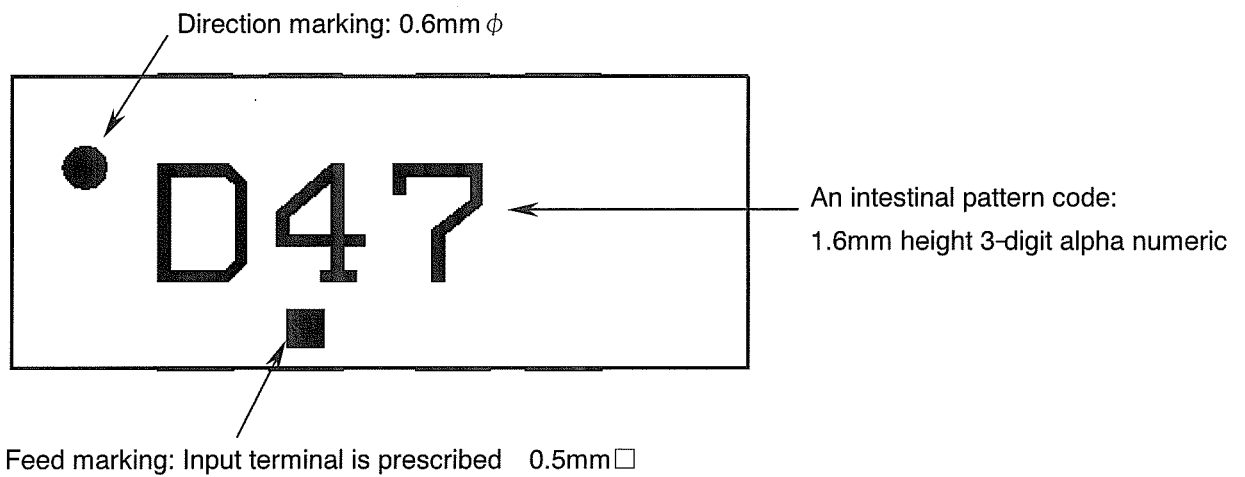

Figure -2
- 4.2 Dimension of evaluation board and land-patterns: Refer to figure -2, 3.